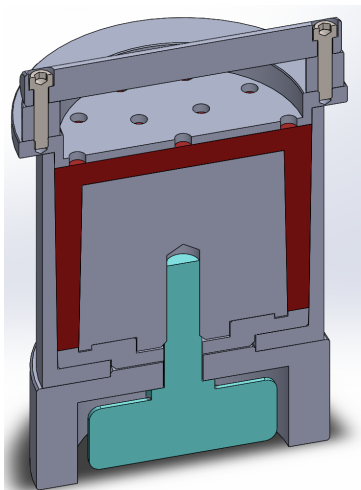

Figure 1. Remove sample from top of the lid.
1. Remove the sample/wax came out from the holes on the top of the lid (Figure 1).